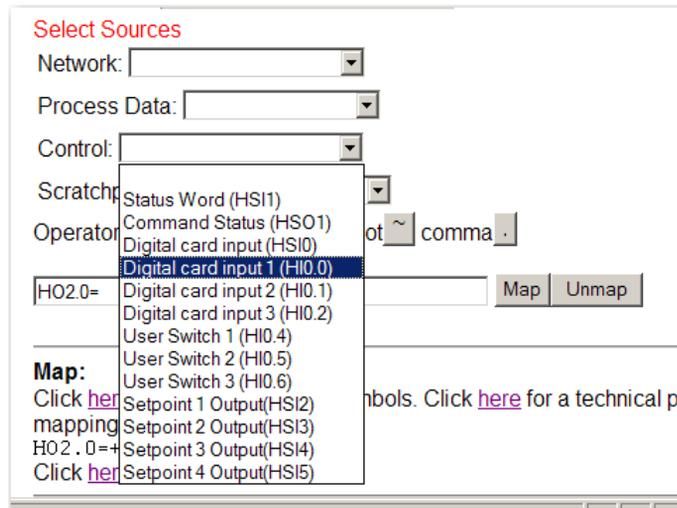

FIG. 267 SOURCES/SELECTING DIGITAL CARD INPUT 1
- Click on the Sources Control pull down menu. (See Fig. 267)